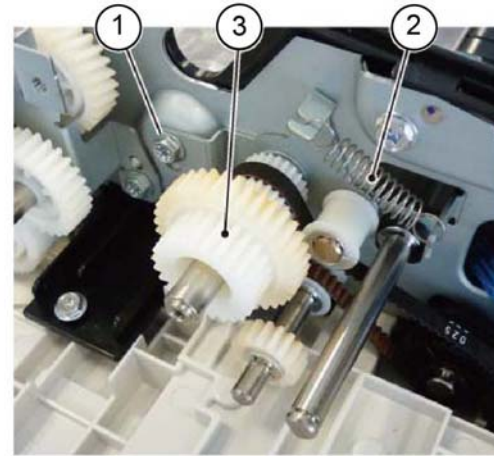

Figure 4 Gear pulley removal
11. Remove the gear pulley, **Figure 4**:
- a. Loosen the screw (1).
- b. Remove the tension spring (2).
- c. Remove the gear pulley (3).